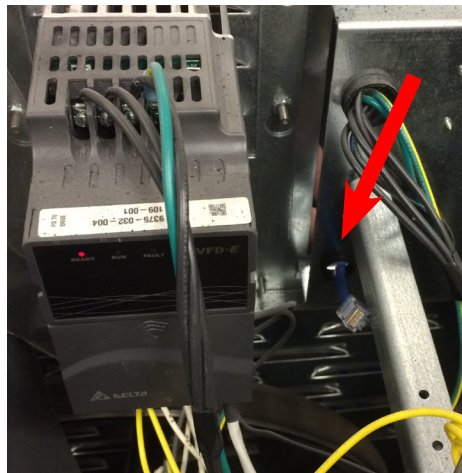

Figure 3
16. Inside the cover area route the cable to the right and through the hole with the bushing (Figure 3)